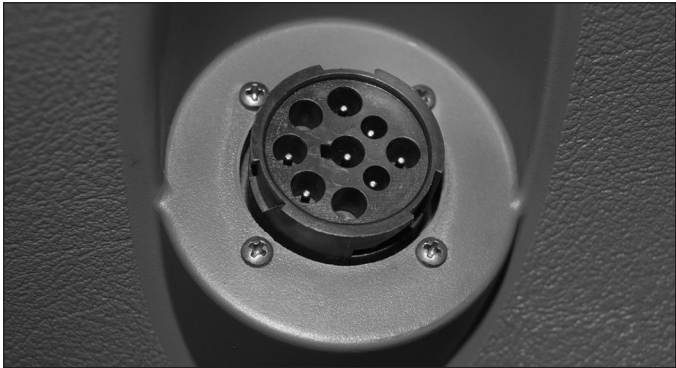

FIGURE 7 - TYPICAL VEHICLE DIAGNOSTIC CONNECTOR LOCATION (J1939)
3. Communicates the appropriate trouble code information over the serial communications diagnostic link as required. Hand-held or PC-based diagnostic tools attach to the vehicle diagnostic connector, typically located on or under the dash (See Figure 7).
See Figure 7 for typical vehicle connector locations.